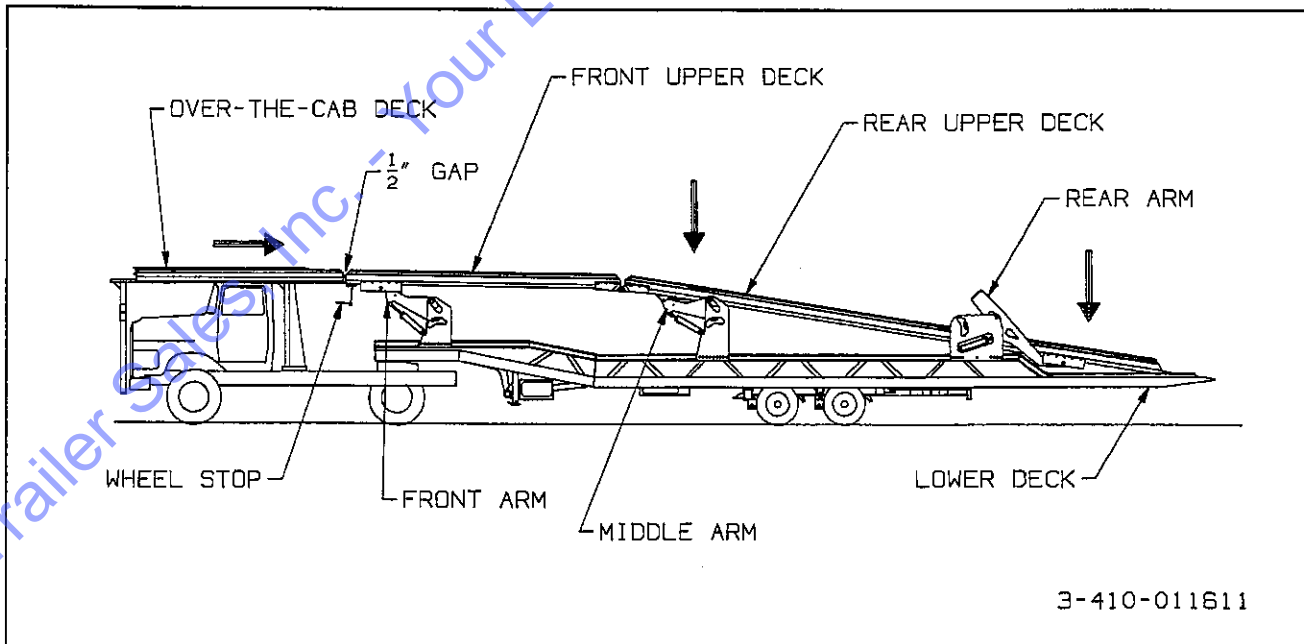

Figure 3-7 Lining Up the Over-the-Cab Deck
a. Unlock and lower the middle arm as far down as it will go. (See Figure 3-7.)